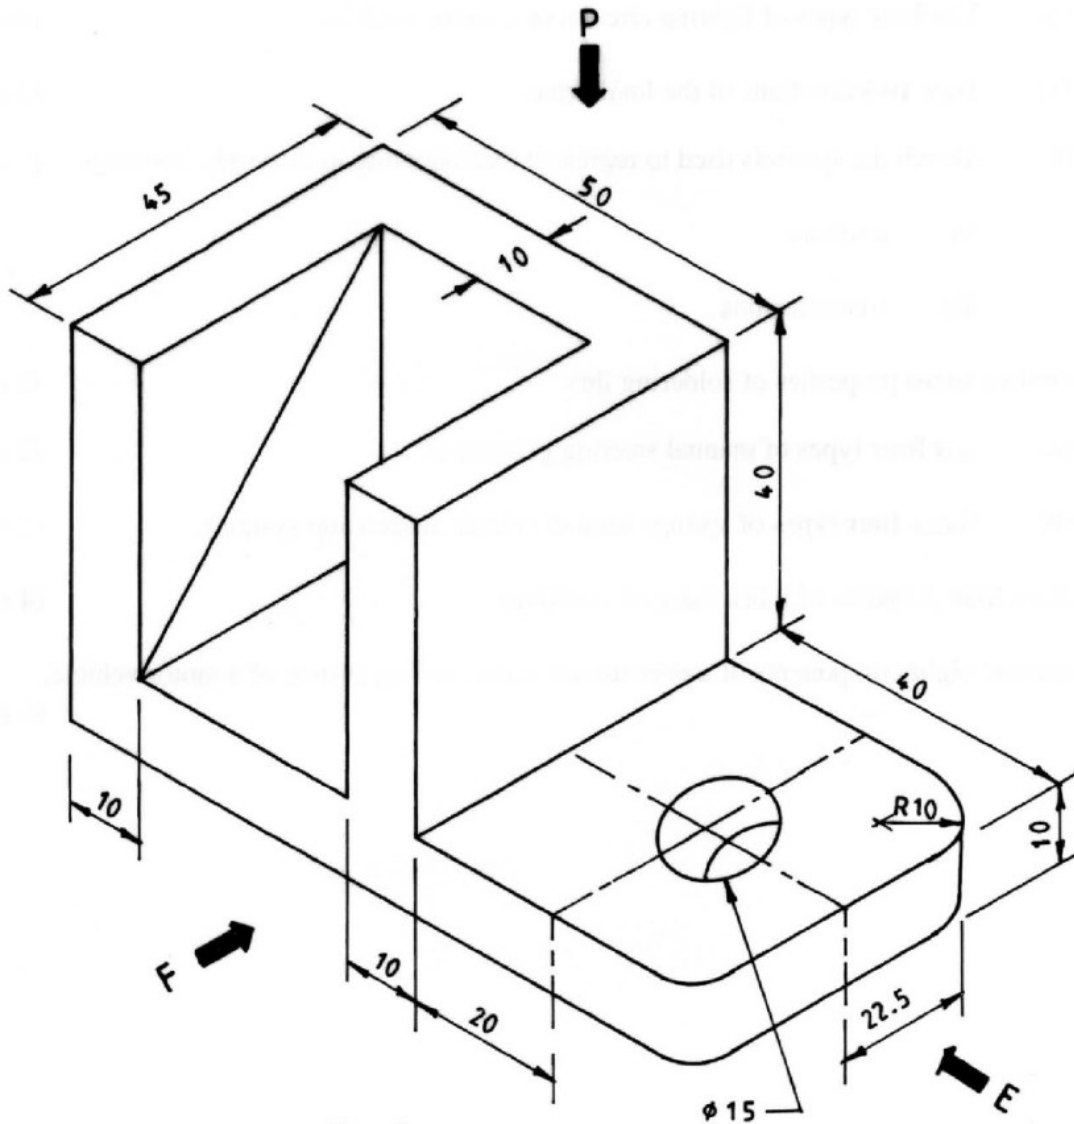

Fig. 2
- 11 **Figure 2** shows a machine block drawn in isometric projection.